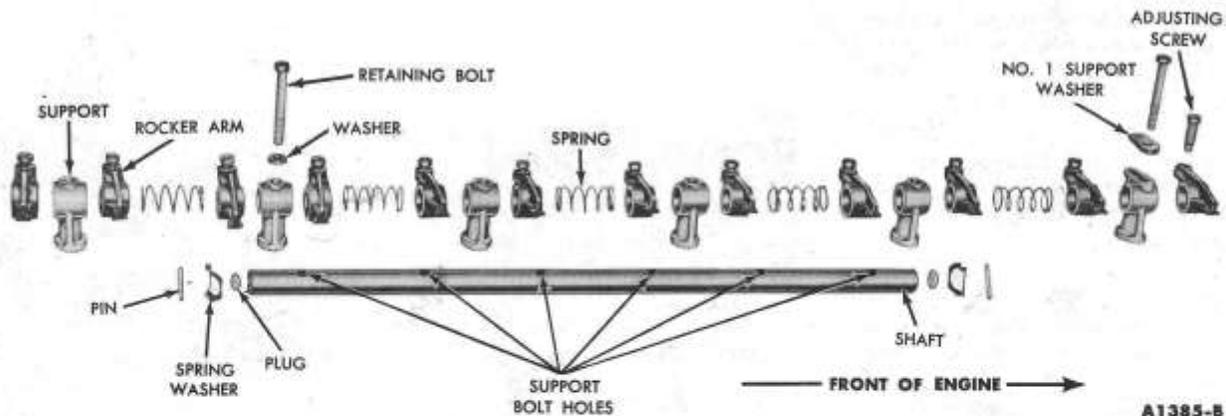

FIG. 31—Valve Rocker Arm Shaft Assembly
4. Install the valve rocker arms, supports, and springs in the order shown in Fig. 31. **Be sure the oil holes in the shaft are facing downward.** Complete the assembly by installing the remaining spring washer and pin.